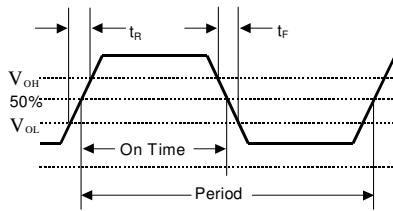
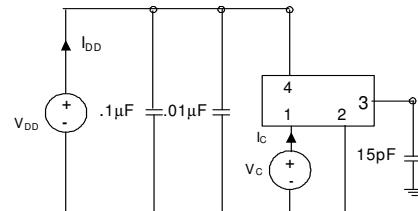

Figure 1: Output Waveform
Figure 2: Typical Output Test Conditions (25±5 °C)
2. Parameter is defined in Figure 1 and tested as shown in Figure 2.
3. Symmetry is defined as On Time/Period (Figure 1).